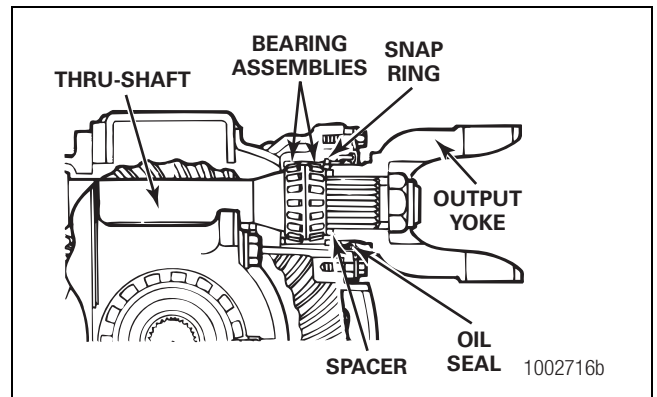

Figure 3.11
1. Remove and discard the original oil seal. Use a new triple-lip or main oil seal when the carrier is assembled. Figure 3.11.